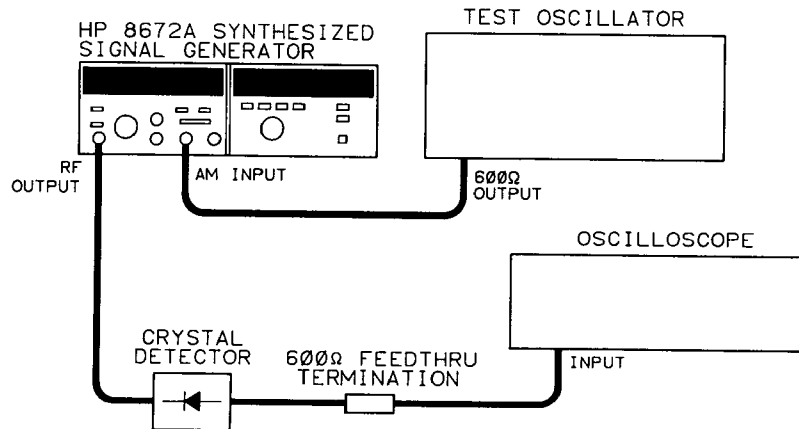

Figure 4-20. AM Bandwidth Test Setup
1. Connect the equipment as shown in Figure 4-20.